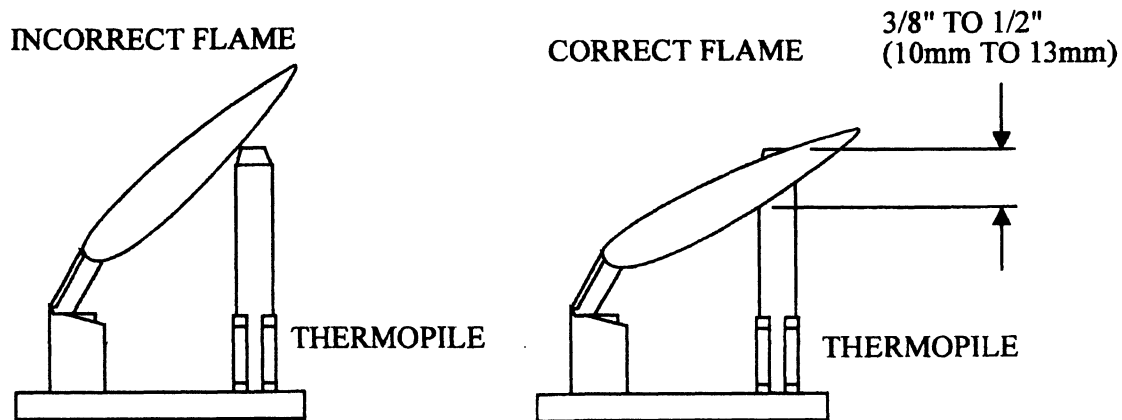

Figure 16
For proper operation, the pilot and main burner flames must be steady and not lifting off or floating. The top 3/8" - 1/2" (10-13mm) of the thermopile should be engulfed by the pilot flame. The pilot flame adjustment should be performed by a qualified service person only. To adjust the pilot flame, turn the pilot adjustment screw counterclockwise ← to increase, and clockwise → to decrease the flame. Ensure that the pilot flame completely engulfs the thermopile, as shown in Figure 16.
1. Weak or improperly located pilot flame	1. Adjust and clean pilot. The flame must impinge on or engulf the thermopile, as shown in Figure 16.